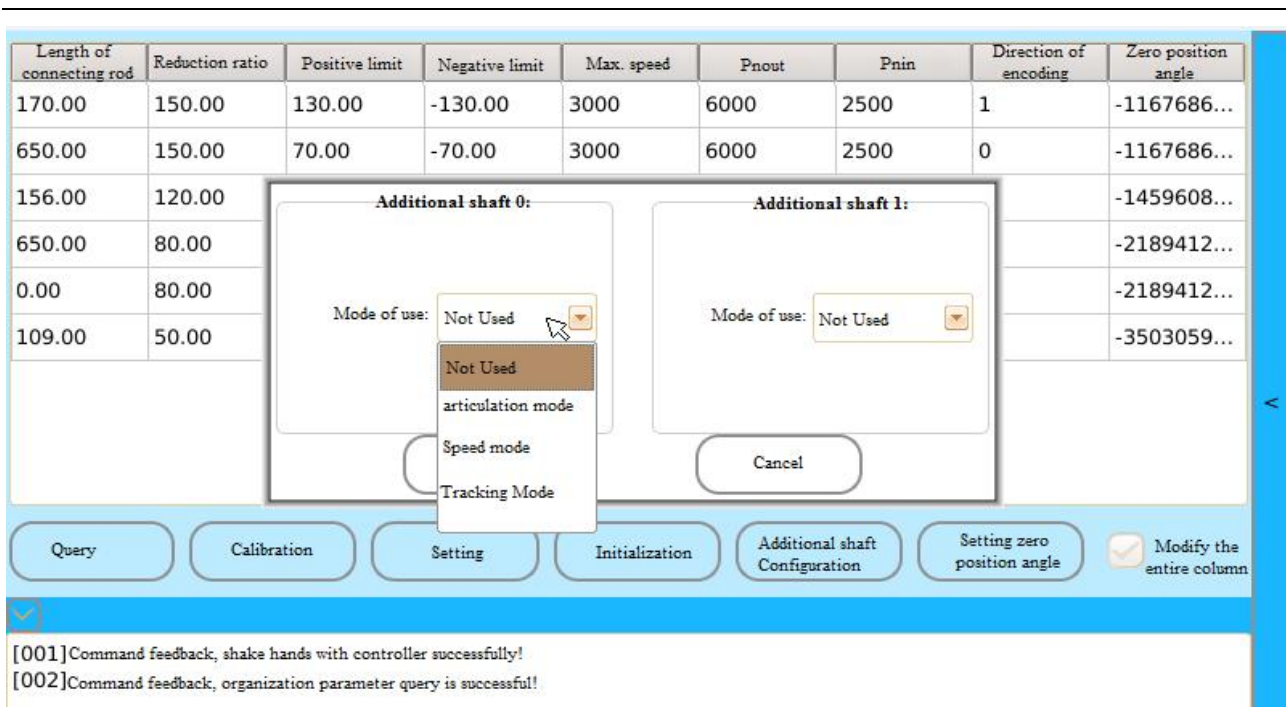

Fig. 3.6 Additional Shaft Use Mode
(1) “Additional shaft” use mode: the control system provides 3 modes for use of the additional shaft, as shown in Fig. 3.6 of “Additional shaft use mode”, respectively, a. articulation mode; b. speed mode; C. tracking mode.
**(2) “Additional shaft” application:** After completing setting of the additional shaft “Driver configuration” and the “additional shaft using mode”, click the “Setting”\_“Query” keys in “Additional shaft using mode” to complete setting of the additional shaft. As shown in Fig. 3.6.